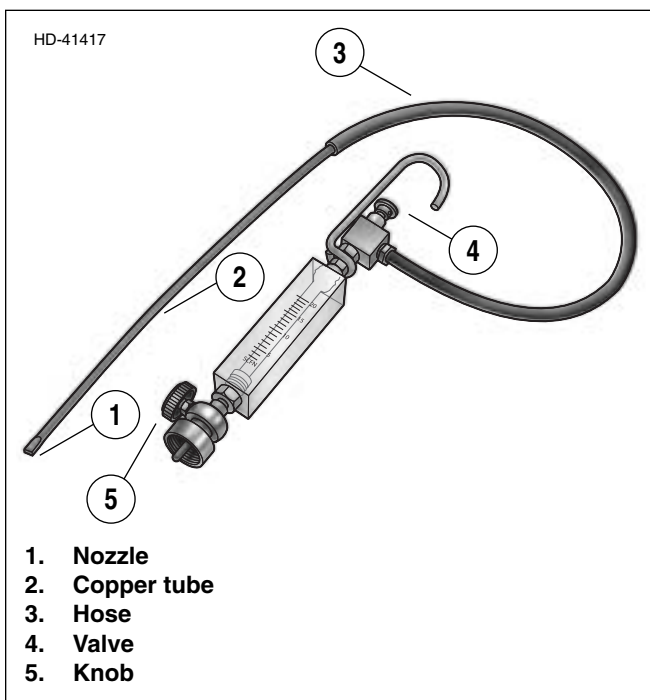

Figure 4-45. Propane Enrichment Kit (HD-41417)
5. See Figure 4-45. Push valve (4) to release propane. Tone of engine will change when propane enters source of leak.